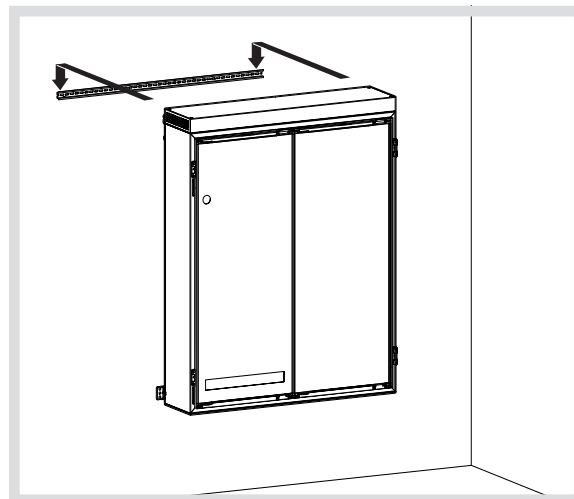

Figure 13: Mount the energy storage system
- Fix the energy storage system to the supporting rail (Figure 13).